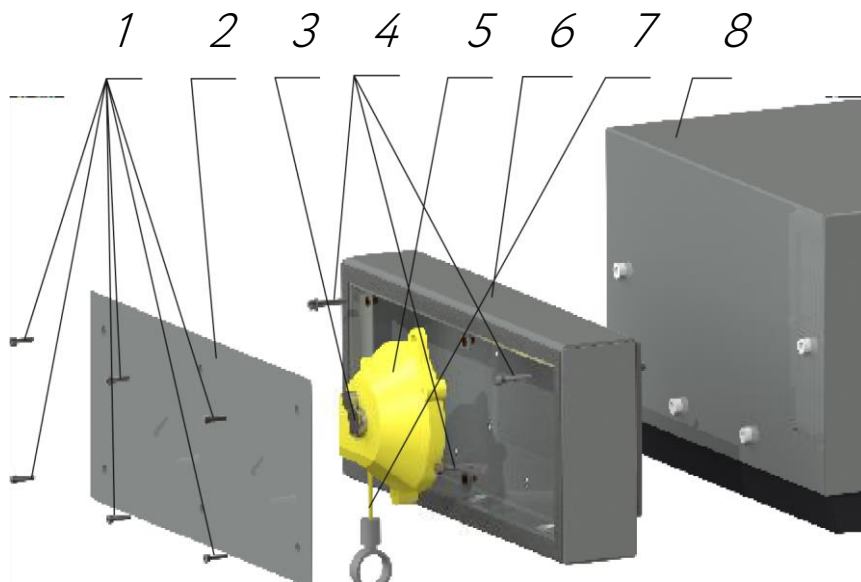

Figure 7.6 Fastening of cable tensioners
1. Unscrew 6 screws 1 (Figure 7.6).
2. Remove cover 2. (Figure 7.6).
3. Unscrew the tensioner bolts 5 (Figure 7.6).
4. Unscrew the screws on the tensioners 5 (Figure 7.6) and remove the back cover.
7. For assembly. Before that, disassemble the tensioner 5 (Figure 7.6) and remove the cable from the tensioner.
8. Pull the cable through the entrance hole in the housing 6 (Figure 7.6) and into the holder case.
11. Attach the tensioner to the body 6 (Figure 7.6).
12. Set the required tension by turning screw 3 (Figure 7.6) as needed (cable attachment).
13. Attach cover 2 (Figure 7.6).
14. Tighten screws 1 (Figure 7.6).